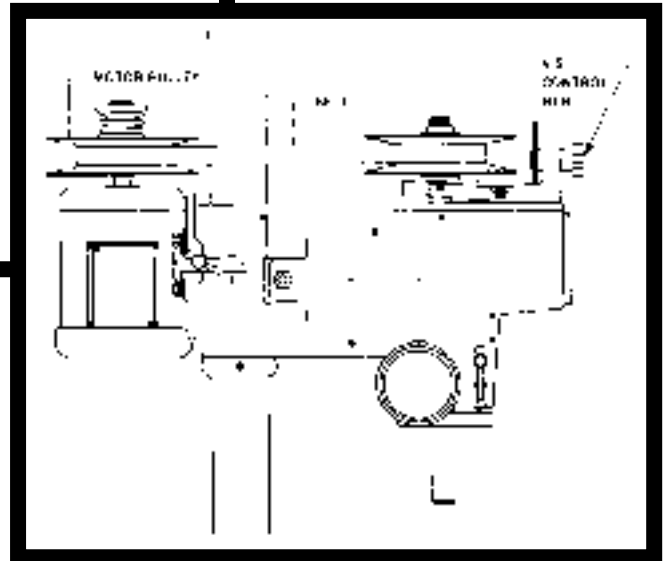

FIGURE 4
- d. Before replacing guard - temporarily replace variable speed control hub (Fig. 4). Turn machine on. The belt should be in a horizontal plane. If belt is cocked at an angle, shut off the motor, loosen motor pulley and move on shaft until belt is level. Secure setscrew. (See section on changing speeds for setting speed range.)
If spindle speed does not appear to match the dial speed on variable speed unit - check speed with a tachometer and adjust by unlocking the setscrews in the upper sheave half and turning the top nut on the spline drive (see Fig. 4) clockwise to decrease speed and counterclockwise to increase speed.